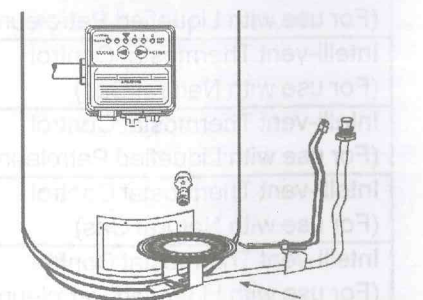

FIGURE 5.
6. Remove the burner assembly from the water heater, see Figure 5.